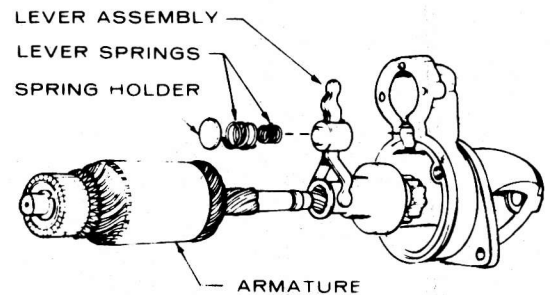

FIGURE 42. ARMATURE REMOVAL
3. The armature can easily be removed from the front bracket. Be careful not to miss a small steel washer used in the end of the armature shaft. The shift lever can be removed along with the armature when it is removed. In this case, the spring holder, lever springs and retainer can be taken out before the lever. See Figure 42.